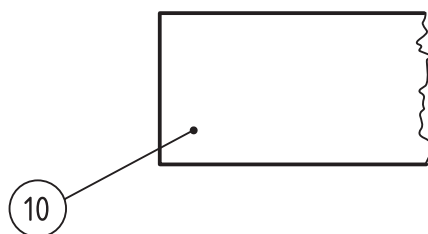

Figure 1 — Encircled-part reference number
- a) encircling the characters of each part reference (see Figure 1); in this case, the circles shall have the same diameter and be drawn with continuous narrow lines (type 01.1 of ISO 128-23, ISO 128-24 and ISO 128-25);
The part reference should be connected to its associated part by a leader line (see Figures 1, 2 and 3), the termination of which shall comply with ISO 128-22.